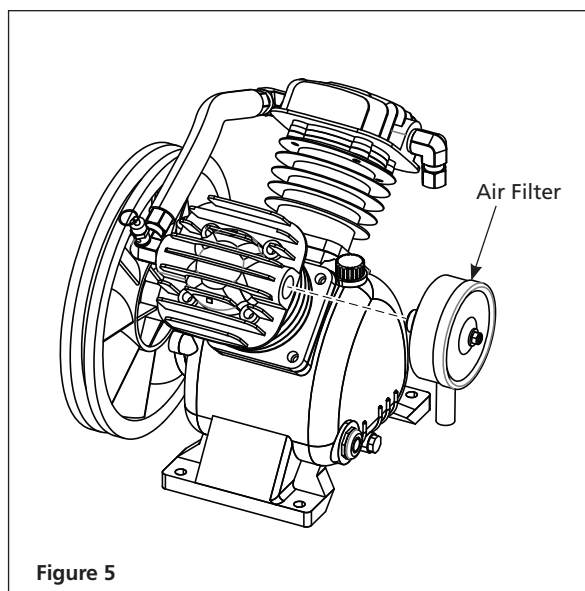

Figure 5
3. Install air filter. See Figure 5.